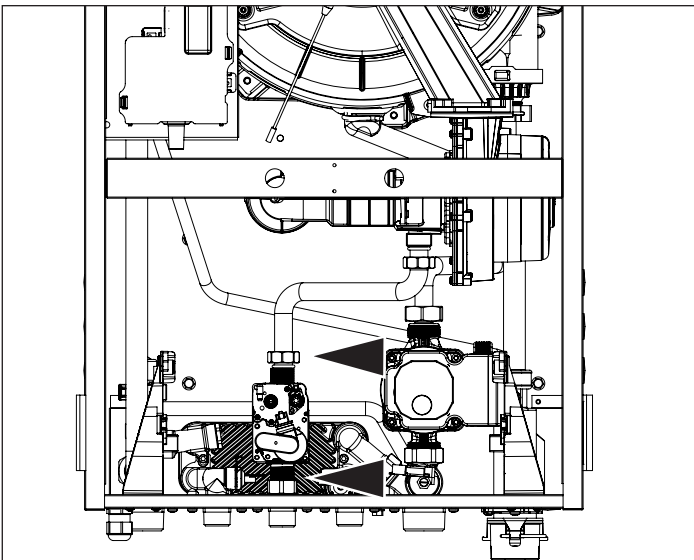

Figure 93 - Disconnect the Gas Line
- Remove the two nuts above and below the gas valve. See Figure 93.